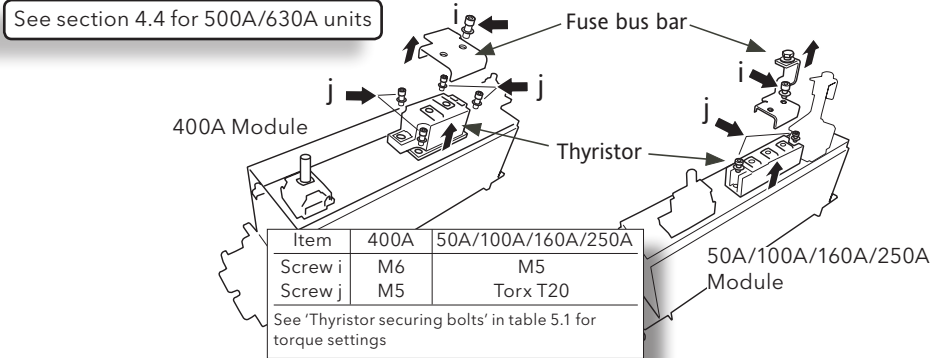

Figure 3.5 Thyristor removal (see section 4.4 for 500A/630A modules)
1. Remove the fuse bus bar by undoing the securing screw ('i' in figure 3.5).